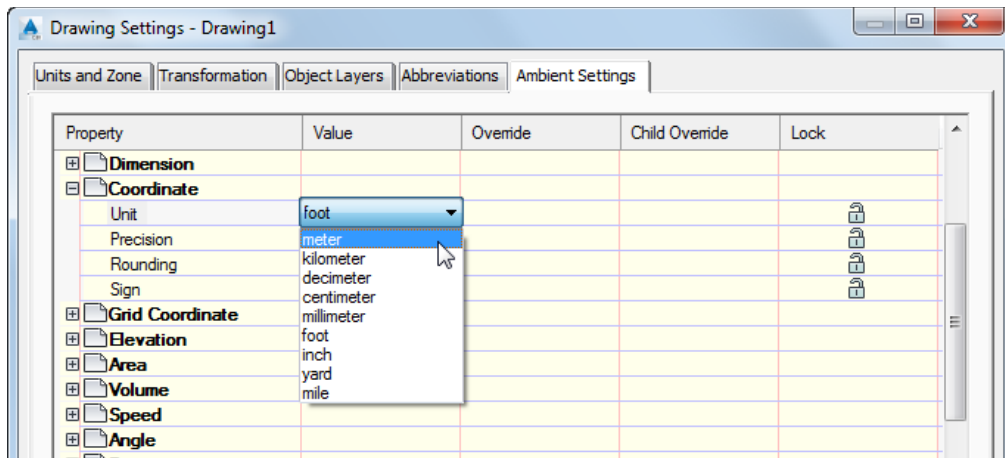

Figure 3-72 Selecting the **meter** option for the **Unit** cell from the drop-down list
4. Next, choose the **Ambient Settings** tab. Expand the **Coordinate** node and click on the cell in the **Value** column corresponding to the **Unit** property; a drop-down list is displayed. Select the **meter** option from the drop-down list, as shown in Figure 3-72.